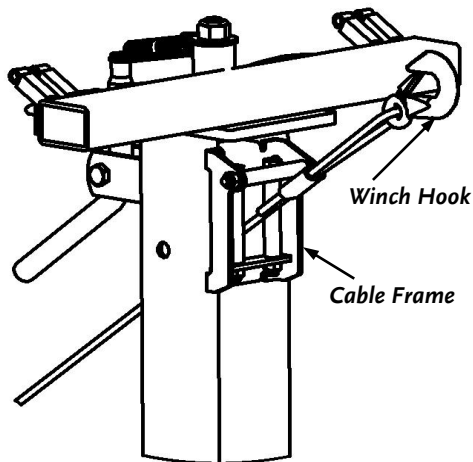
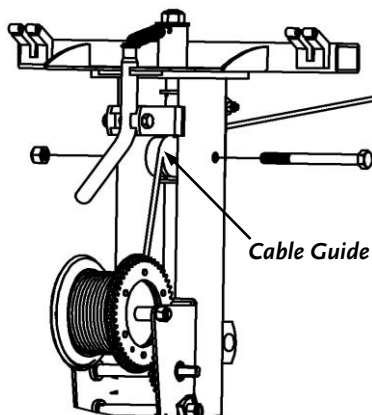

Figure 32
Figure 33
4. Pull the Winch Hook up through the Cable Guides on the Crane (**Figure 32**) and reinstall the Cable Guide with the Cable on Top of the Guide (**Figure 33**). Make sure that Guide is free to rotate.